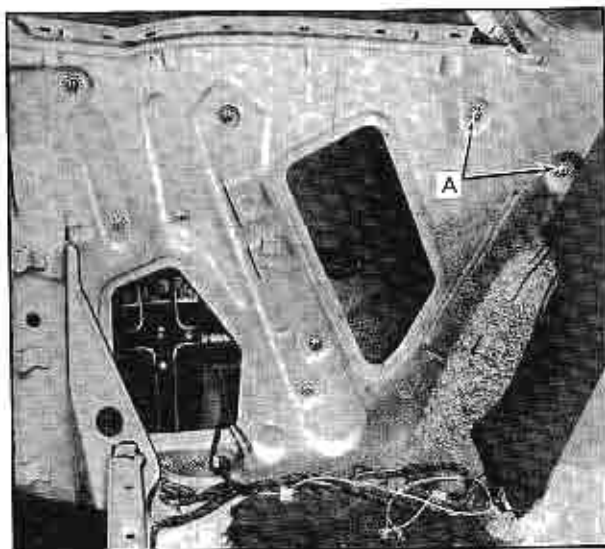

Fig. 3-46 Rear Quarter Window Assembly (6237X)
4. With the rear quarter window in the up position, remove two rear quarter window rear guide attaching screws "A", Fig. 3-46, and remove rear guide from body.